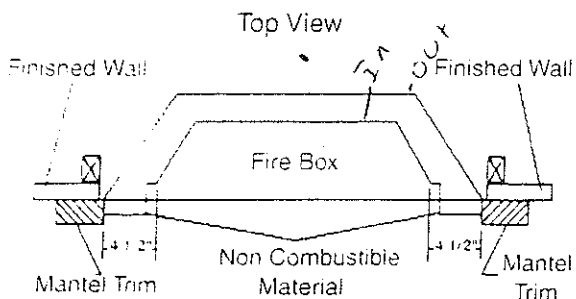

Figure 1. Top View of Fire Box Clearances.
1. Sidewall Clearances: The clearance from the side of the appliance to any combustible wall should not be less than 4 1/2" (See Figure 1 & 2).